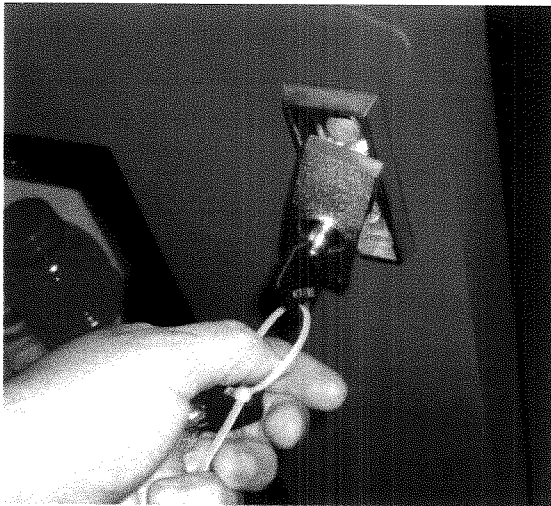

Figure 7 – Insert key and turn handle
- Insert the key and turn clockwise, the handle will pop out (*reference figure 7*). Then turn the handle counter clockwise (the opposite direction) until the door opens.